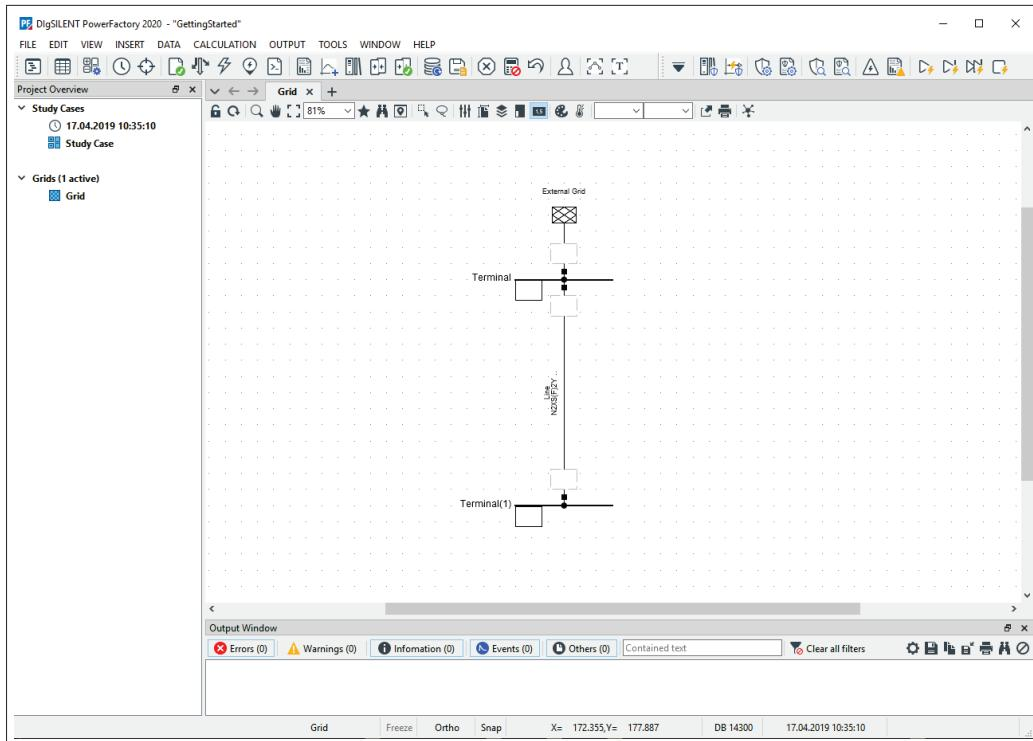

Figure 24.16.8: Grid
- draw a simple grid with two terminals (*ElmTerm*) connected by a line (*ElmLine*) as shown in Figure 24.16.8.